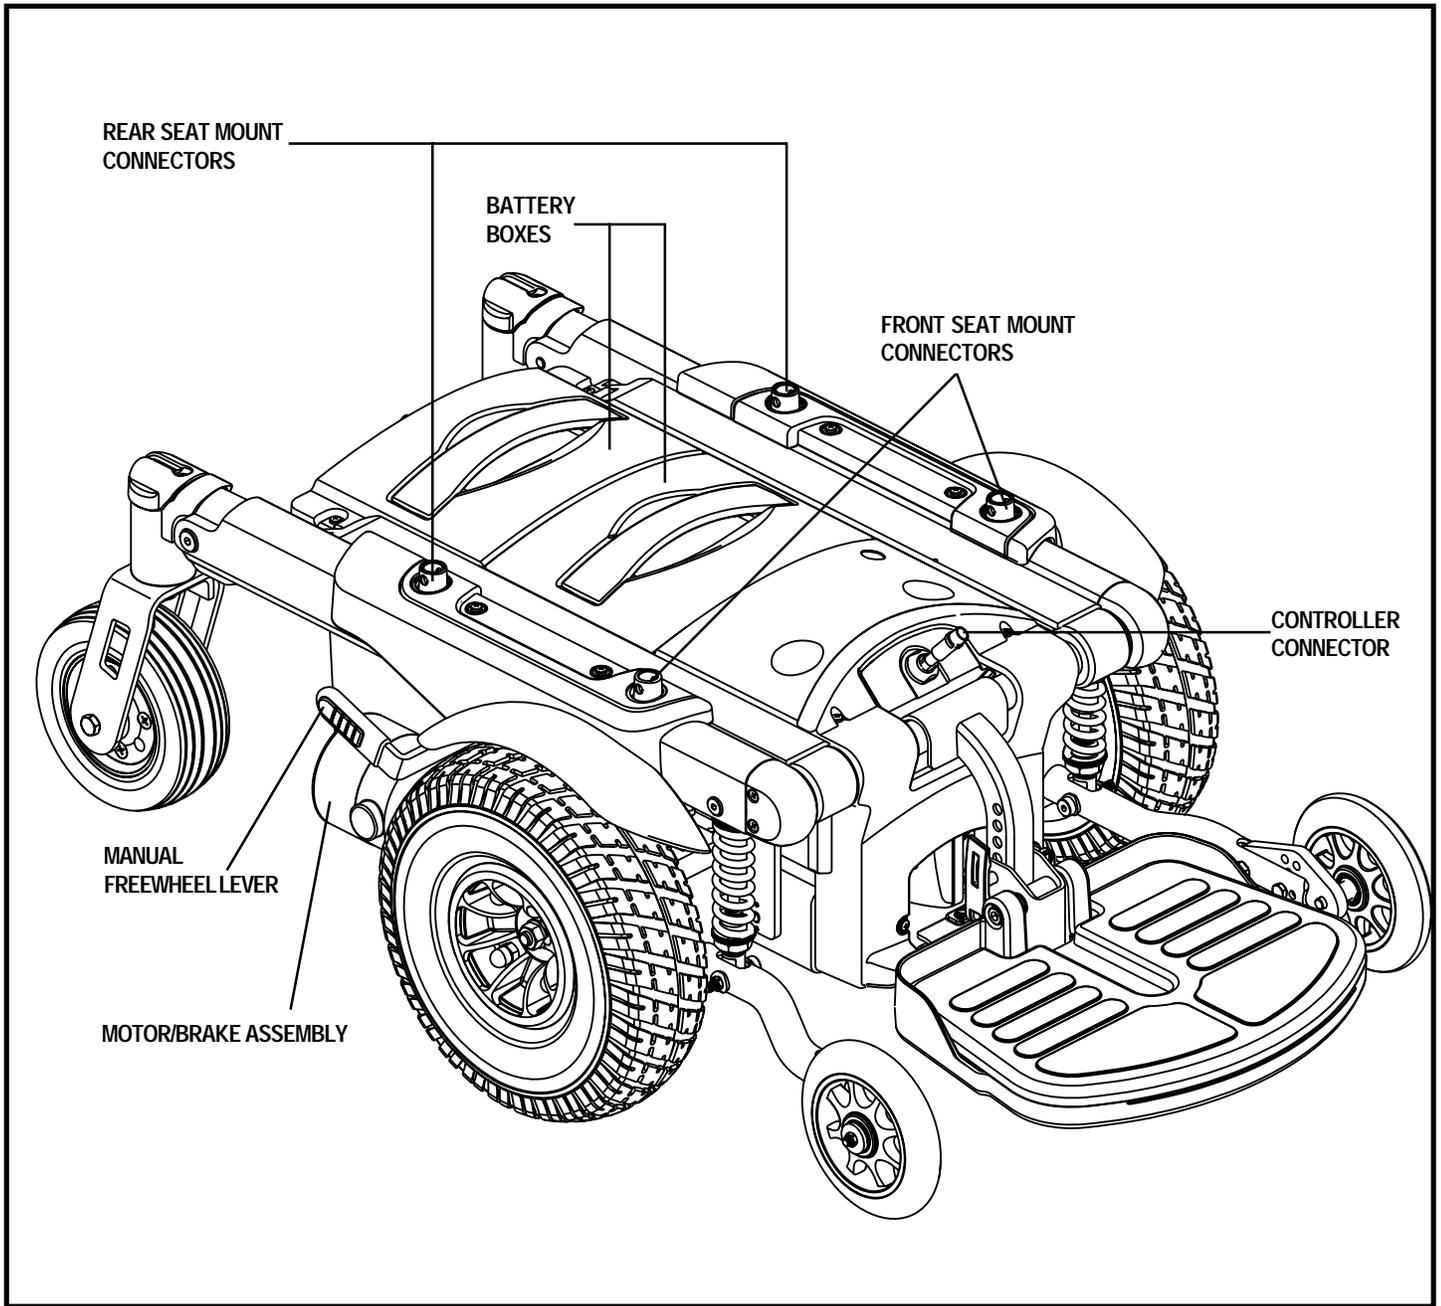

Figure 6. The Quantum Dynamo 1107 Power Base (Shown with Foot Platform)
The electrical components consist of the controller assembly, the batteries, and the motors. The batteries, motors, and controller power module are located on the power base assembly. See figures 6 and 7. The controller is located on the seat assembly. Connectivity between the controller and the motors, the batteries, and the battery charger is provided by one or more wiring harnesses.
2. Disconnect the controller. See figure 6.
8. Plug the controller into the power base. See figure 6.